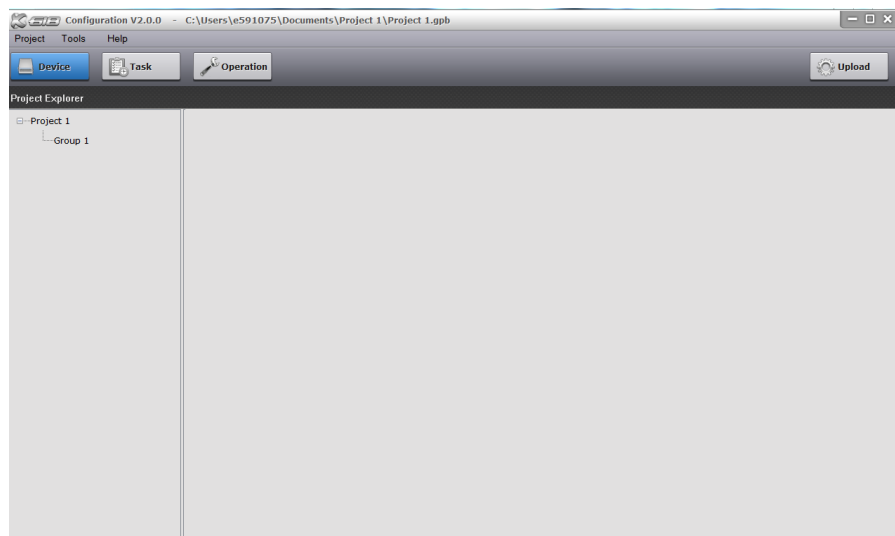

Figure 7 Project Created Sample
3. Click the OK button to create the project. The window as shown in Figure 7 is displayed.